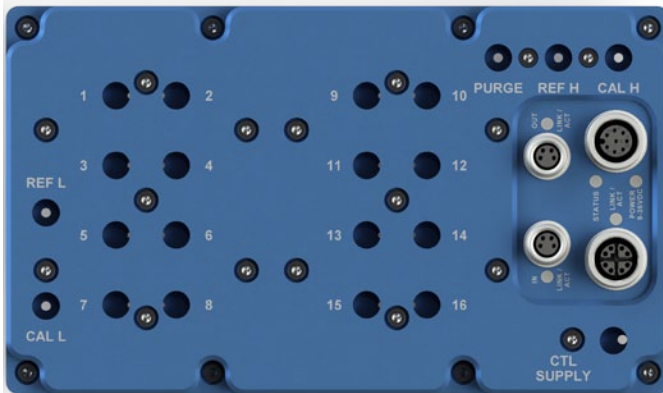

FIGURE 2.2 - DSA5000 DUAL RANGE 16DR TOP VIEW
The DSA5000 Dual Range 16DR module is available as a dual pressure range module, offering eight (8) channels of one pressure range and eight (8) channels of a different pressure range. Like a standard DSA5000, each group of eight (8) transducers share a common calibration valve and a common reference manifold. However, in dual range modules the reference manifolds and the calibration valves are not tied together internally, and a separate reference and calibration port are provided on the top of the module for each range. These ports are labeled CAL H and REF H (high, channels 9-16), and CAL L and REF L (low, channels 1-8). Standard configuration will place the lower pressure range in the “low” side, channels 1-8. This can be altered at the customers request. Figure 2.2 depicts the top panel of a DSA5000 Dual Range 16DR module.